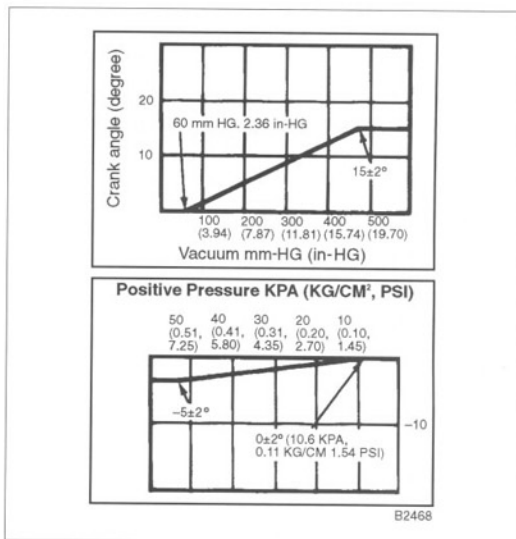

Fig. 4-8. Check vacuum diaphragm, 1.6L Turbo.
1. Apply vacuum to advance diaphragm and note timing. See Fig. 4-8.